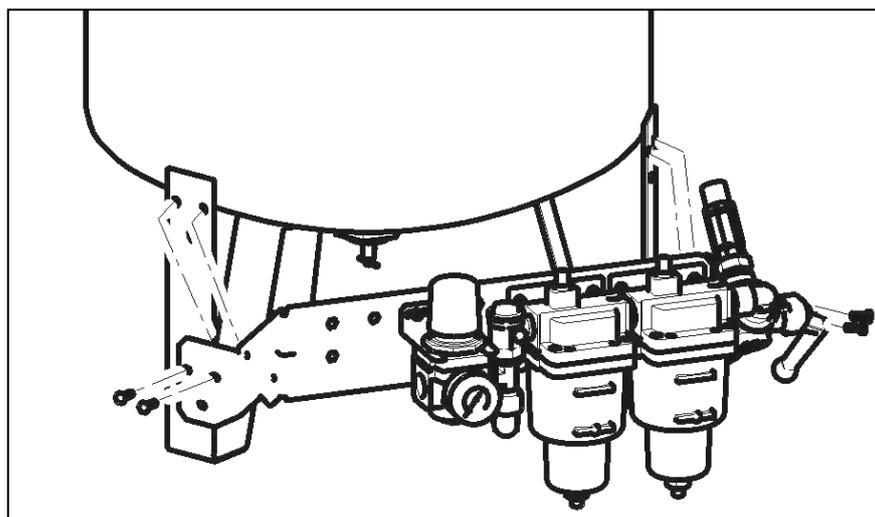

Fig.10
- Attach the filtration set to the legs of the air tank using the 4 bolts and 4 nuts provided. (Fig.10)